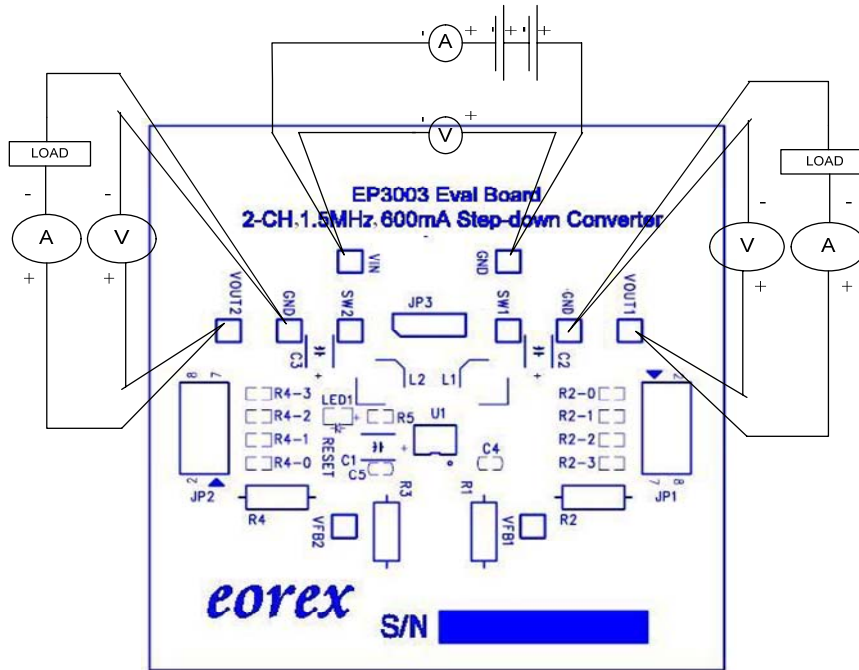

Figure 1. Proper Measurement Equipment Setup
Demonstration circuit EP3003 EVB is easy to set up to evaluate the performance of the EP3003. Refer to Figure 1 for proper measurement equipment setup and follow the procedure below:
1. Connect the input power supply to the  $V_{IN}$  and GND terminals on the up-side of the board. Do not hot-plug  $V_{IN}$  or increase  $V_{IN}$  over the rated maximum supply voltage of 5.5V, or the part may be damaged. Connect the loads between the  $V_{OUT}$  and GND terminals on the right-side and left –side of the board. Refer to figure 1 for the proper measurement equipment setup.